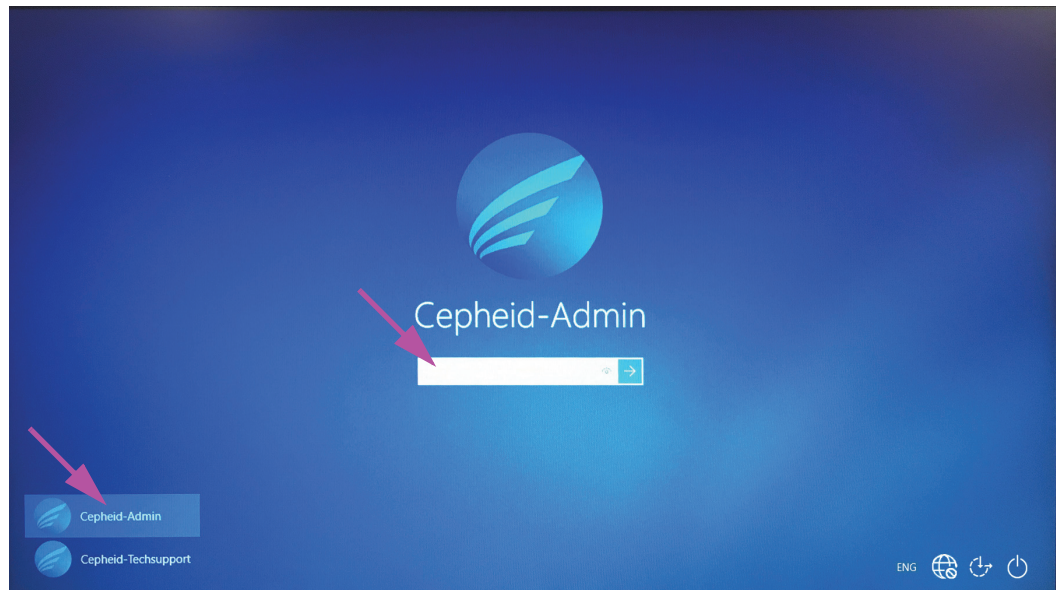

Figure 5-2. Windows 10 Account and Password Screen
3. On the Windows Account screen, select the **Cepheid-Admin** user account (see Figure 5-2).
- The Cepheid user account password field appears. See Figure 5-2.
The GeneXpert system computer is configured with two Windows accounts. The **Cepheid-Admin** account is for administrator tasks such as software updates, system configuration and for normal operation; and the **Cepheid-Techsupport** account is for use only by Cepheid Technical Support. See Figure 5-2.
4. On the Windows Password screen (see Figure 5-2), enter the password assigned by your system administrator.